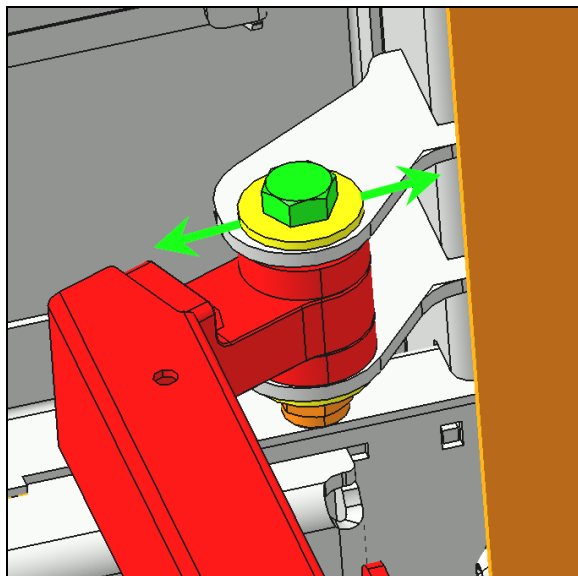

FIGURE 60
8. If the longitudinal position is out of tolerance, adjust using the adjustment provided on the lower attachment point of the arm on the vehicle chassis (FIGURE 60).